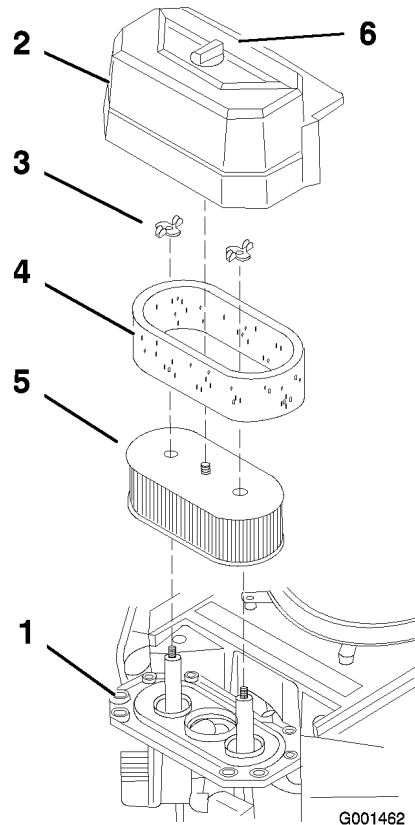

Figure 30
3. Clean around the air cleaner to prevent dirt from getting into the engine and causing damage (Figure 30).
4. Unscrew the cover knob and remove the air cleaner cover (Figure 30).
5. Remove the 2 wing nuts and remove the air cleaner assembly (Figure 30).
6. Carefully pull the foam element off the paper element (Figure 30).
1. Do not clean the paper filter. Replace it after 200 operating hours (Figure 30).
1. Carefully slide the foam element onto the paper air cleaner element (Figure 30).
2. Place the air cleaner assembly onto the air cleaner base and secure it with the 2 wing nuts (Figure 30).
3. Place the air cleaner cover into position and tighten the cover knob (Figure 30).